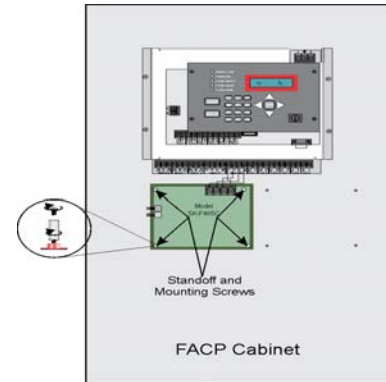
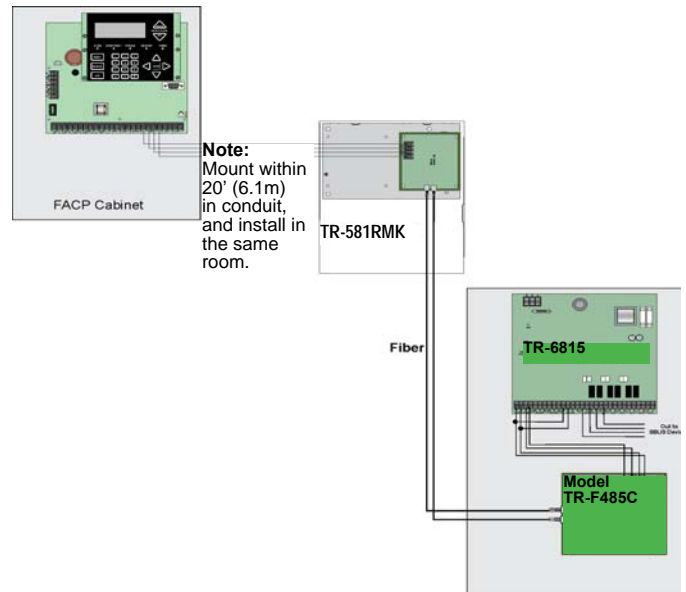

**Figure 1 1/4" (.63cm) Standoff & Screw**
**Figure 2 TR-F485C Installed in the FACP Cabinet**
2. Mount the TR-F485C in an FACP or power supply using the 1/4" (.63cm) standoff provided and secure with the screws provided. See Figure 1 and Figure 2.
Figure 2 shows the TR-F485C installed in the FACP Cabinet.